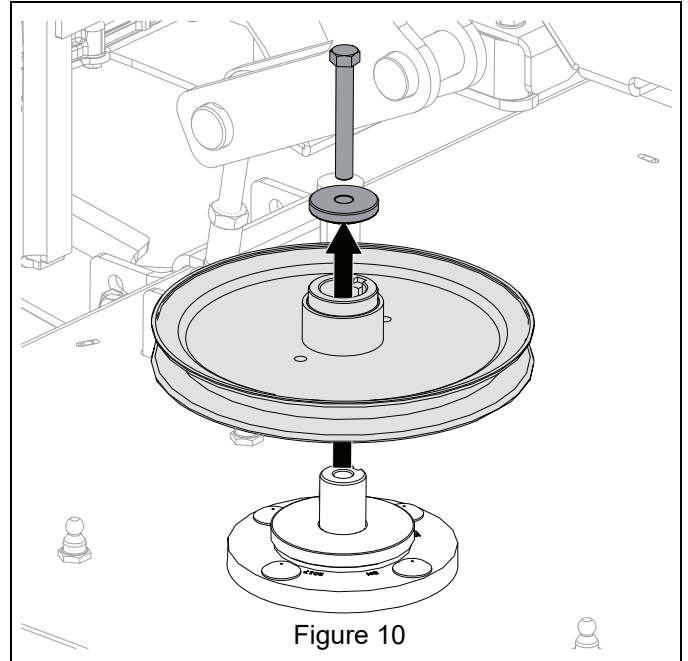

Figure 10
12. Remove and retain hardware from right deck pulley. Remove pulley and retain for operation without bagger. See Figure 10.